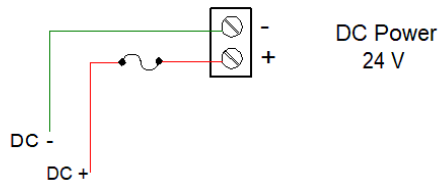

Figure 7. DC Power Connections
- Use three-terminal power connector as shown in Figure 7.
- Use two-terminal power connector as shown in Figure 7.